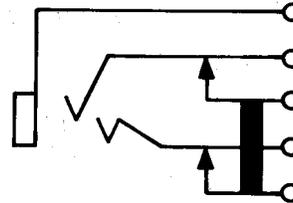

Fig. 25—248-Type Jack
2.25 248A, E, and AM: These single-mounted jacks (Fig. 25) are used with 277, 309, 324, and 428 plugs. These are heavily insulated jacks and are